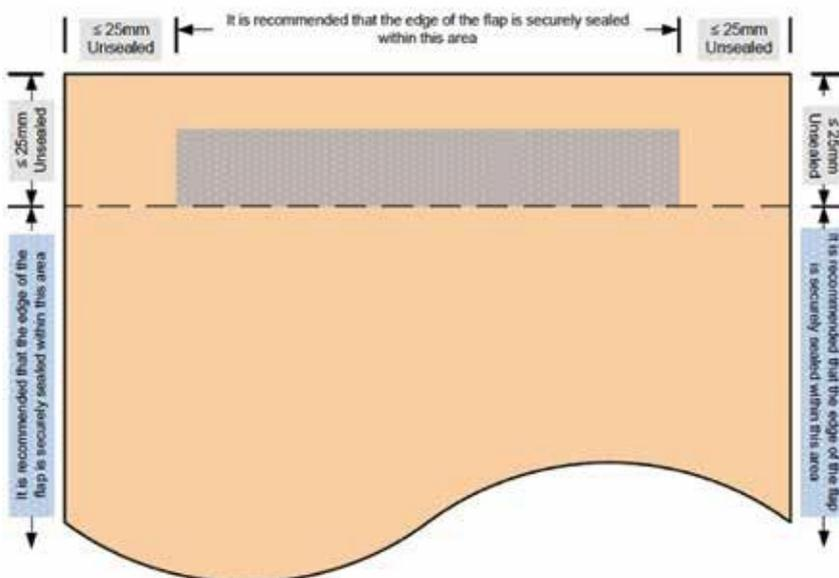

Figure 21 Sealing tolerances polymer
- The opening flap is sealed to within a minimum of 25mm from the fold of the envelope flap and 25mm from the sides of the envelope (see **figure 21**)